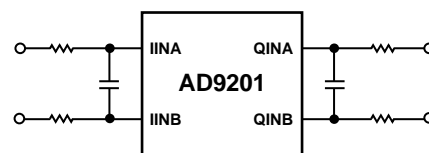
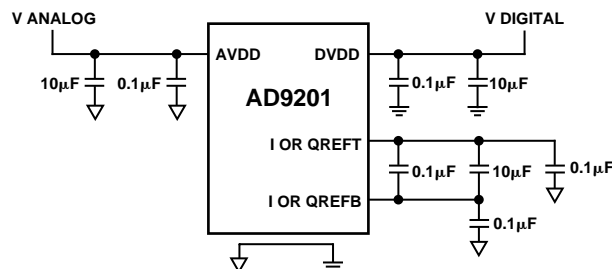

Figure 20. Input Loading
Figure 21. Reference and Power Supply Decoupling
**Crosstalk:** The internal layout of the AD9201, as well as its pinout, was configured to minimize the crosstalk between the two input signals. Users wishing to minimize high frequency crosstalk should take care to provide the best possible decoupling for input pins (see Figure 20). R and C values will make a pole dependant on antialiasing requirements. Decoupling is also required on reference pins and power supplies (see Figure 21).